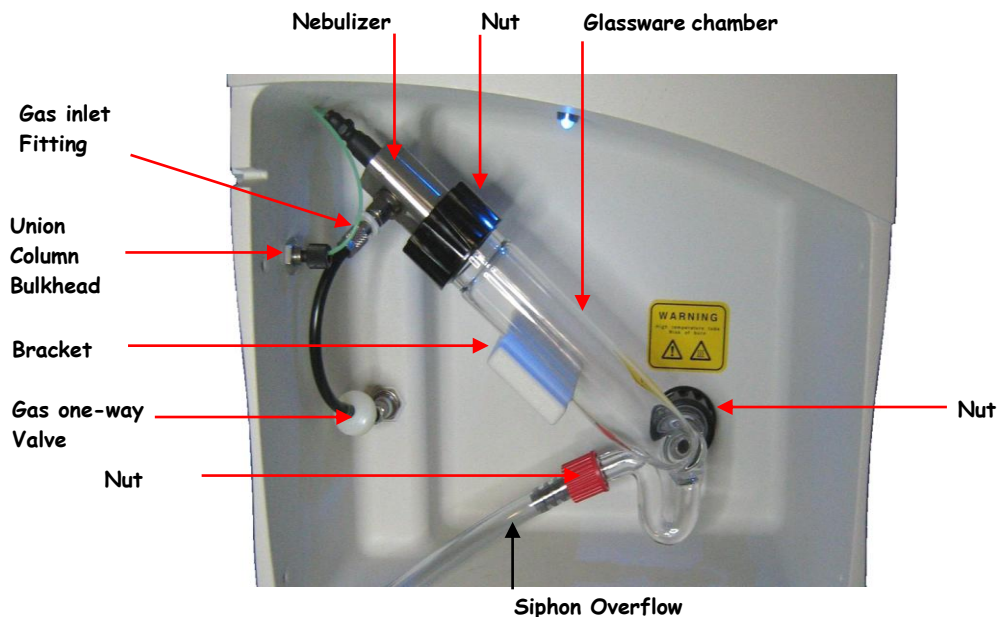
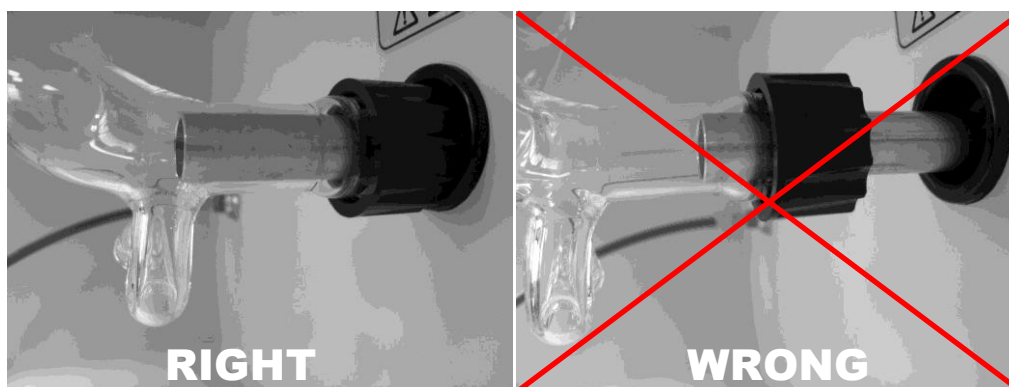

Figure 2-5: Installing the Nebulizer/Glassware Chamber Assembly
Figure 2-6: Fixing the Glass Chamber
The installed Nebulizer/Glassware Chamber assembly is shown in Figure 2-5.
- b) Position the glassware chamber as shown in Figure 2-5 and tighten the black nut at the bottom. The glassware chamber should be placed on the backwall with the backwall as shown in Figure 2-6.
Attach the nebulization gas tube coming out from the front panel to the nebulizer gas inlet fitting located on the nebulizer side. See Figure 2-5.